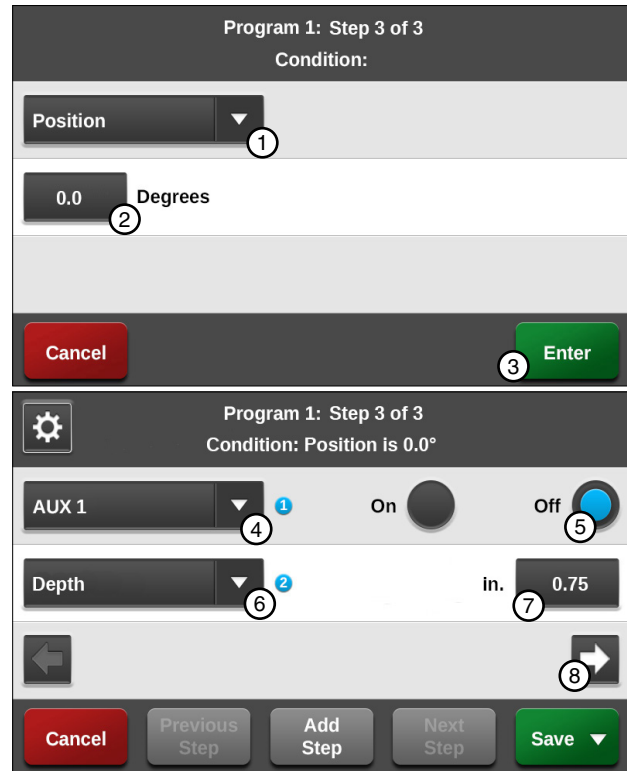

Figure 116-1 1. Position Condition 5. Off
8. Program the position condition for this step. Refer to Figure 116-1.